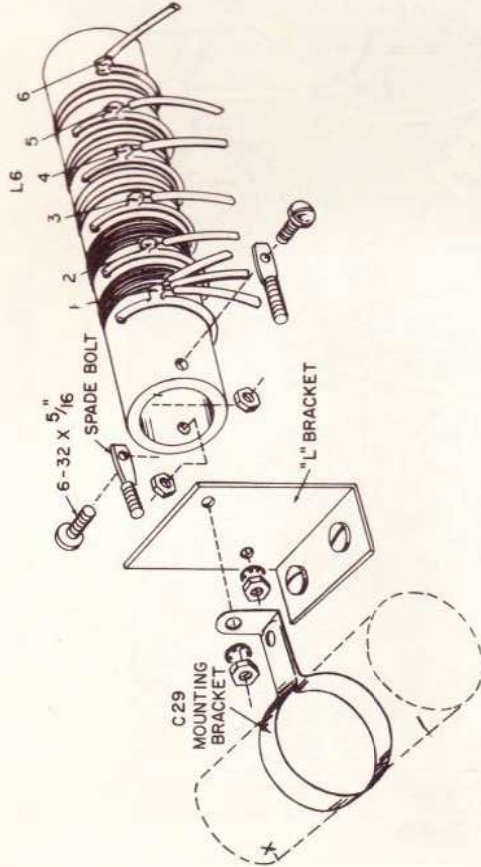

FIGURE 13
SEE FIGURE 13
- Fasten spade bolts to ceramic form of L6. See Figure 13. Note position of spade bolts. Use  $6-32 \times \frac{5}{16}$  screws and nuts. Insert screw through hole in spade bolts, then through hole in ceramic coil form.
- Mount L6 and C29 ( $20\mu\text{f}$ , 600V capacitor) on "L" bracket. See Figure 13. Note position of terminals on L6. They should point to rear of chassis. Insert spade bolts in holes in "L" bracket. Put lockwasher and nut on bolt nearer C16 and tighten nut securely. Note angle of clamp on C29. The red lead should point to C16. Put C29 bracket over other spade bolt. Use lockwasher and nut, and tighten.